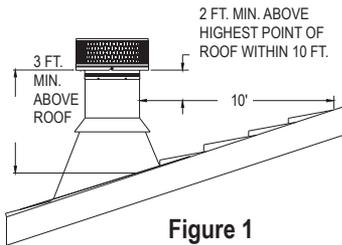
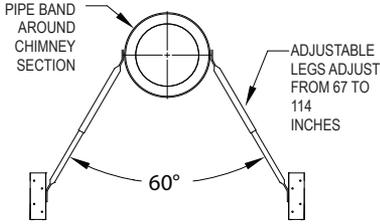

Figure 1
Figure 16
The National Fire Protection Association Standard #211 states: "Chimneys shall extend at least three feet above the highest point where it passes through the roof of a building, and at least two feet higher than any portion of a building within ten feet" (**Fig 1**. 10"-16" diameter Large Diameter Chimney may be installed up to 40 feet high when using a Support Box, and up to 30 feet high when using a Tee Support. Large Diameter in 18"-24" diameters is intended to be mounted directly to an appliance or masonry fireplace, and is limited in height by the allowable weight of the supporting surface, up to a maximum of 60-ft. If the chimney extends more than 4 feet above the roof, an Extended Roof Bracket must be used. Due to the overlap of the joints, subtract 1" from each Chimney Section's height to calculate installed height.
12 and 13. Slide the Storm Collar down over the chimney to the top of the Flashing. Tighten the bolts of the Storm Collar and seal the Storm Collar against the sealant. After installing sufficient Chimney Sections to meet the height requirement as shown in **Figure 1**, attach the Chimney Cap onto the top of the chimney by setting the female end of the Cap onto the male end of the last chimney section. Secure the Cap by using (6) sheet metal screws provided. Do not push down from the top portion of the cap as this may damage the cap. Push from the lower section of the Cap if needed. The Chimney Cap can be removed for chimney cleaning as described in the Chimney Maintenance section of the instructions. Use an Extended Roof Bracket if the chimney extends more than 4 feet above the roof (**Figures 16 & 17 in the Extended Roof Bracket section**).
2. Attach the Legs: The Adjustable Legs of the assembly will adjust from 67" to 114". Secure one end of the Legs to the Pipe Band using the nuts and bolts included (1 per Leg). Position the Adjustable Legs so they form approximately a 60° angle with the chimney, and with each other (**Figures 16 and 17**). Be sure that there is at least 3" of overlap between the top and bottom halves of the Adjustable Leg to ensure a secure fit. In order to secure Legs in proper position, there is a hole provided in the outer leg where the outer and inner halves overlap. Use a 1/4" drill bit to drill